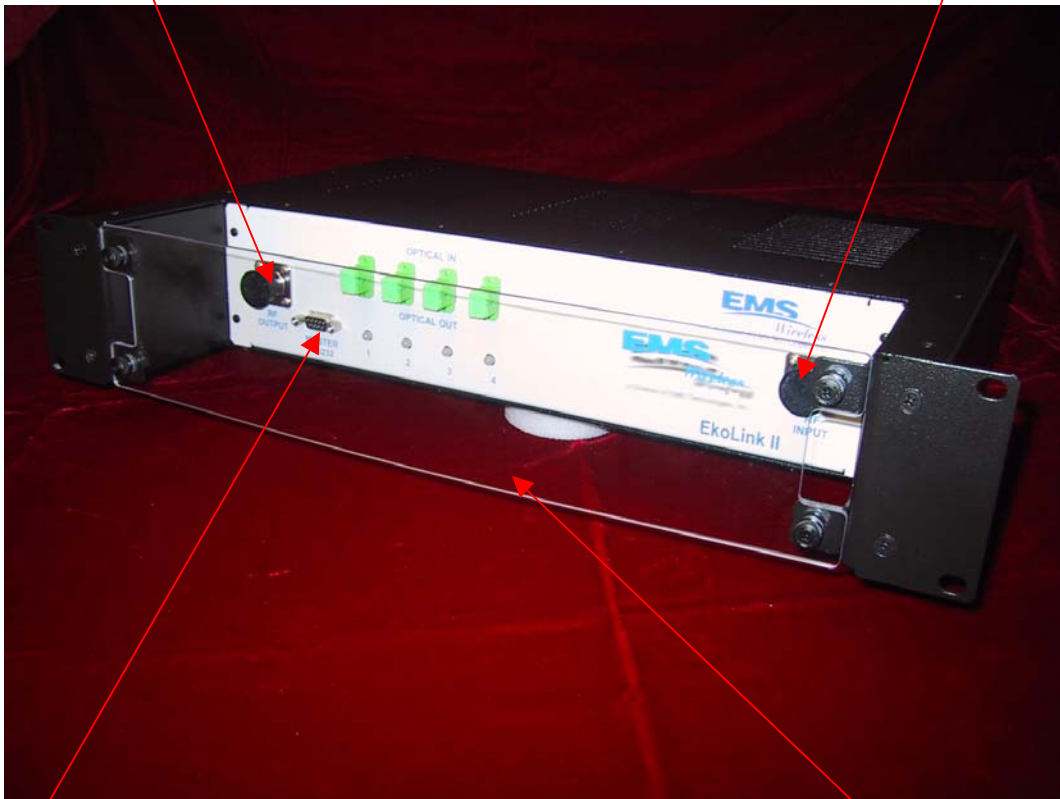
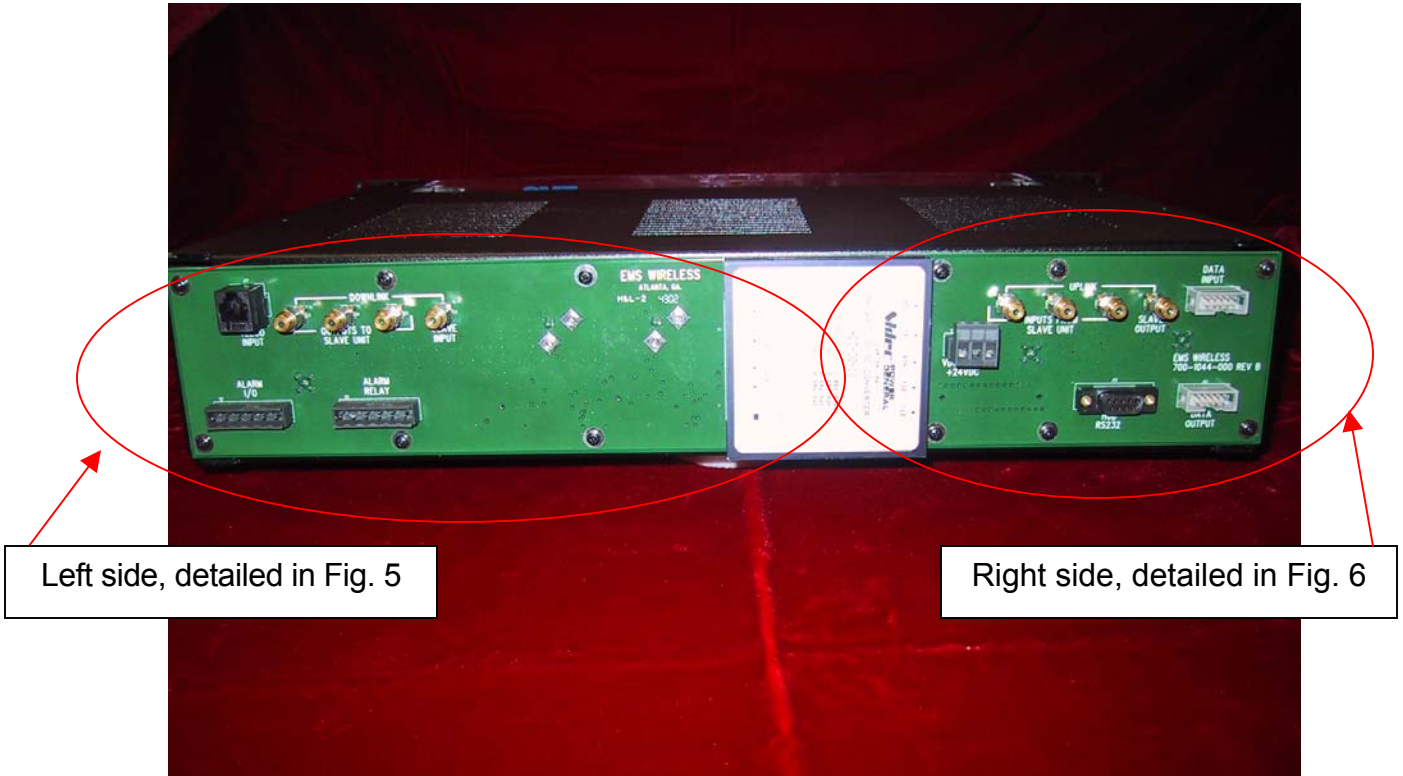
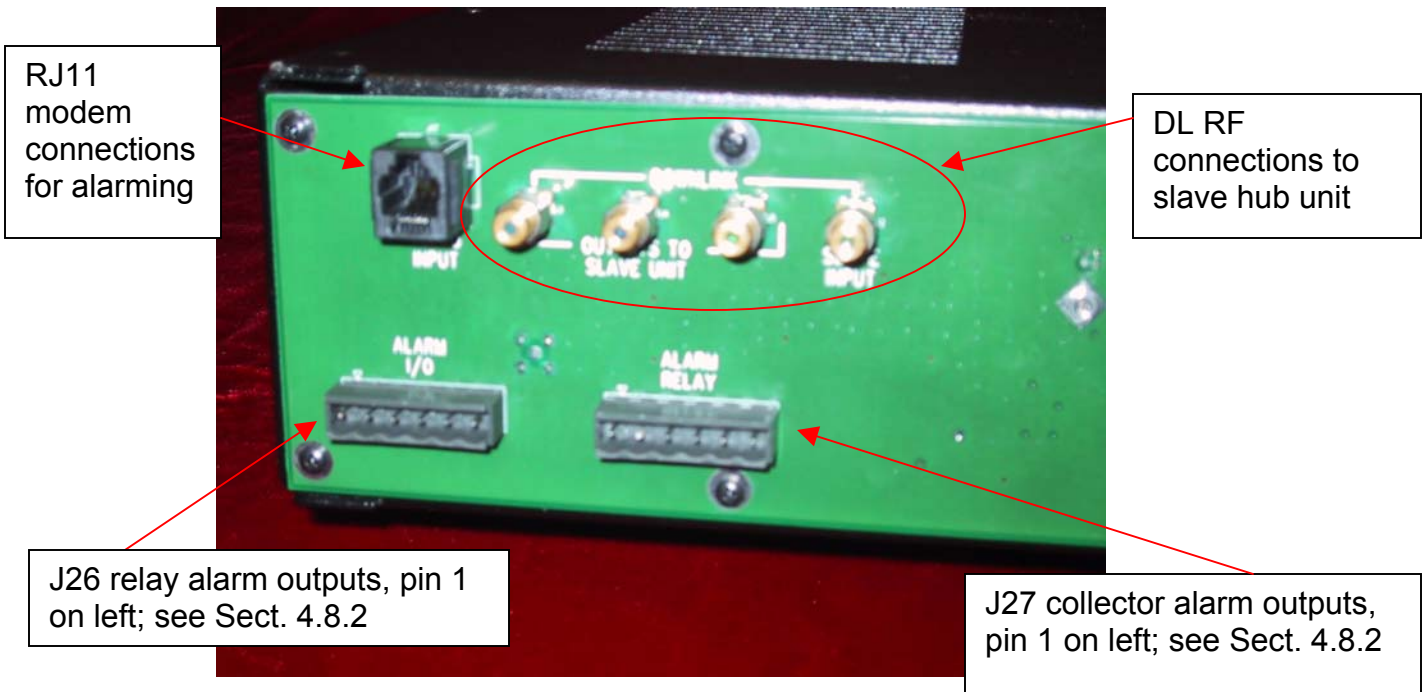
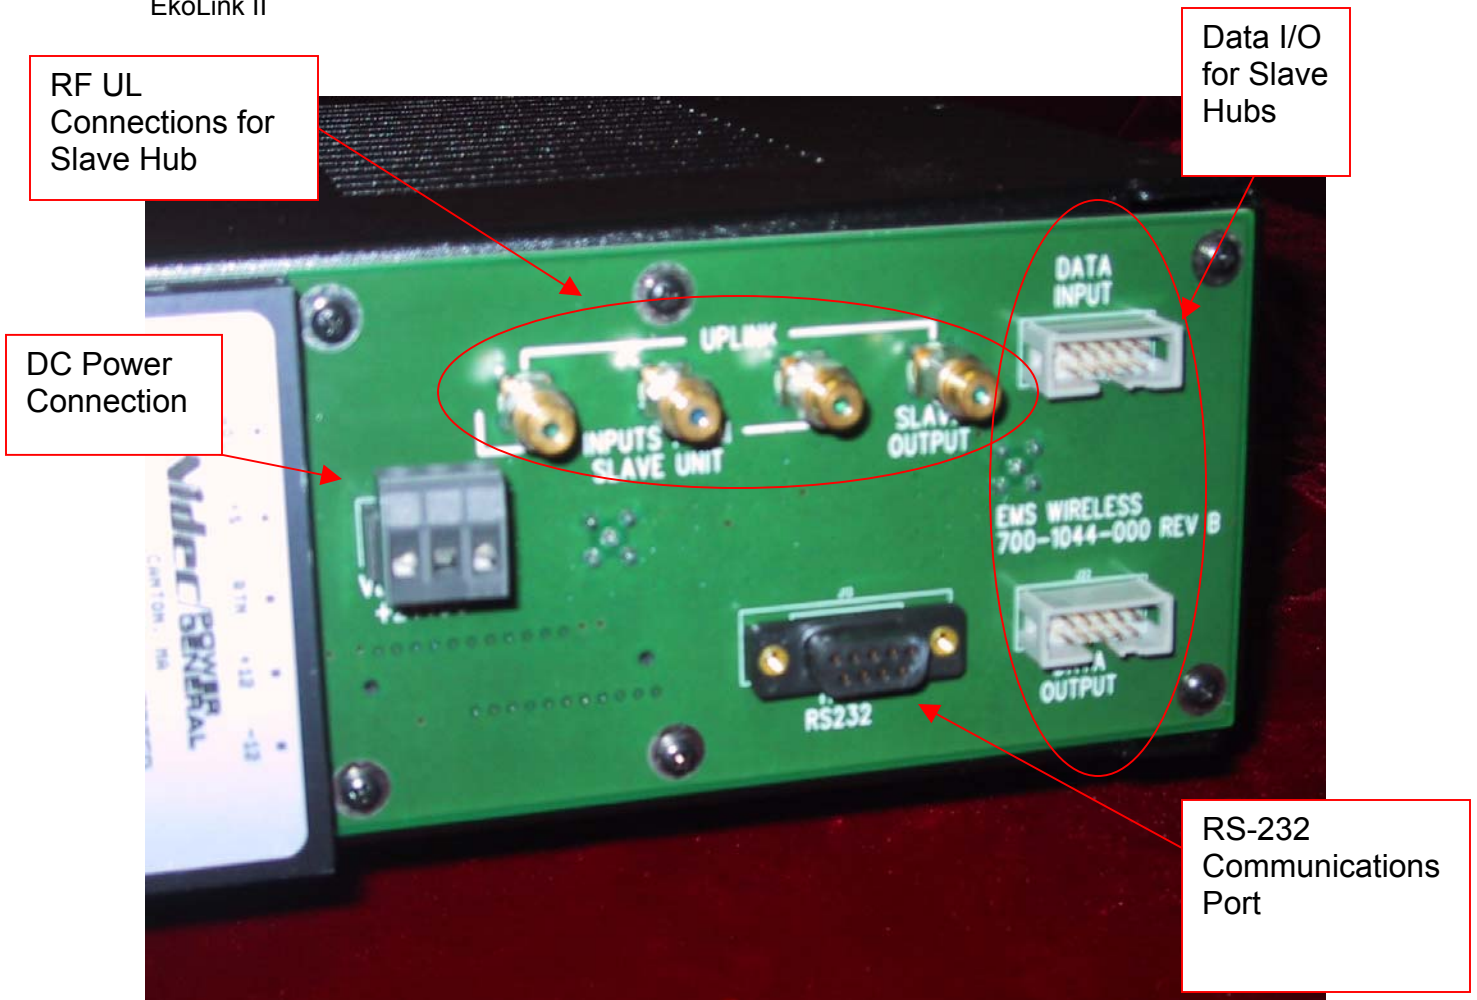

Figure 3: EkoLink II Hub Front Panel
Figure 4: EkoLink II Hub Rear Panel
Figure 5: EkoLink II Hub Rear Panel, Left Side Detail
Figure 6: EkoLink II Hub Rear Panel, Right Side Detail
- Figure 3: EkoLink II Hub Front Panel
- Figure 4: EkoLink II Hub Rear Panel
- Figure 5: EkoLink II Hub Rear Panel, Left Side Detail
- Figure 6: EkoLink II Hub Rear Panel, Right Side Detail
Front and rear views of the Hub unit are shown in Figures 3, 4, 5, and 6. Figure 3 shows the hub front panel with the uplink and downlink RF connectors (type N female), and the four fiber optic input/output connectors. Figure 4 shows the rear panel. Figure 5 shows detail of the left side of the rear panel, with the connection for the wireline telephone for remote alarming and monitoring, RF Downlink connections to a slave unit, as well as external alarm connections. Figure 6 shows detail of the right side of the rear panel, with RF Uplink and Data connections to a slave unit. Also shown is the DC power connection.